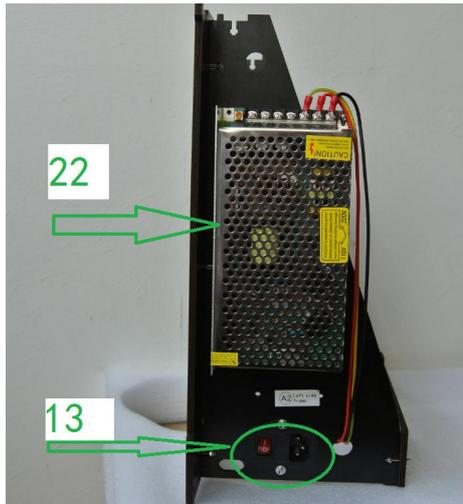

Figure 7.1 A2 Assembly
The installation of A2 assembly is shown in Figure 7.1. As instructed in figure 7.2, fix the motherboard ②② onto the A2 board on the right side of main framework with 3 pieces of ⑤ screw. Then follow figure 7.4 to fix power source socket onto A2 board with screw ⑥, nut ④ and washer ③. The connected power source socket and motherboard cables are shown in figure 7.3.